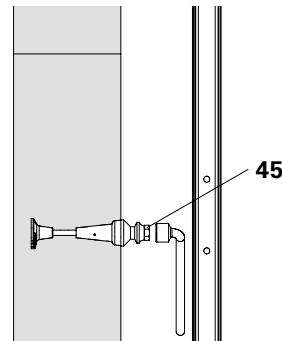

Fig. B1.31
3. Loosen Scaffold Mounting Ring and Bolt M24 x 120 (45) on the previous concreting segment using socket wrench SW 36, and remove. (Fig. B1.31)